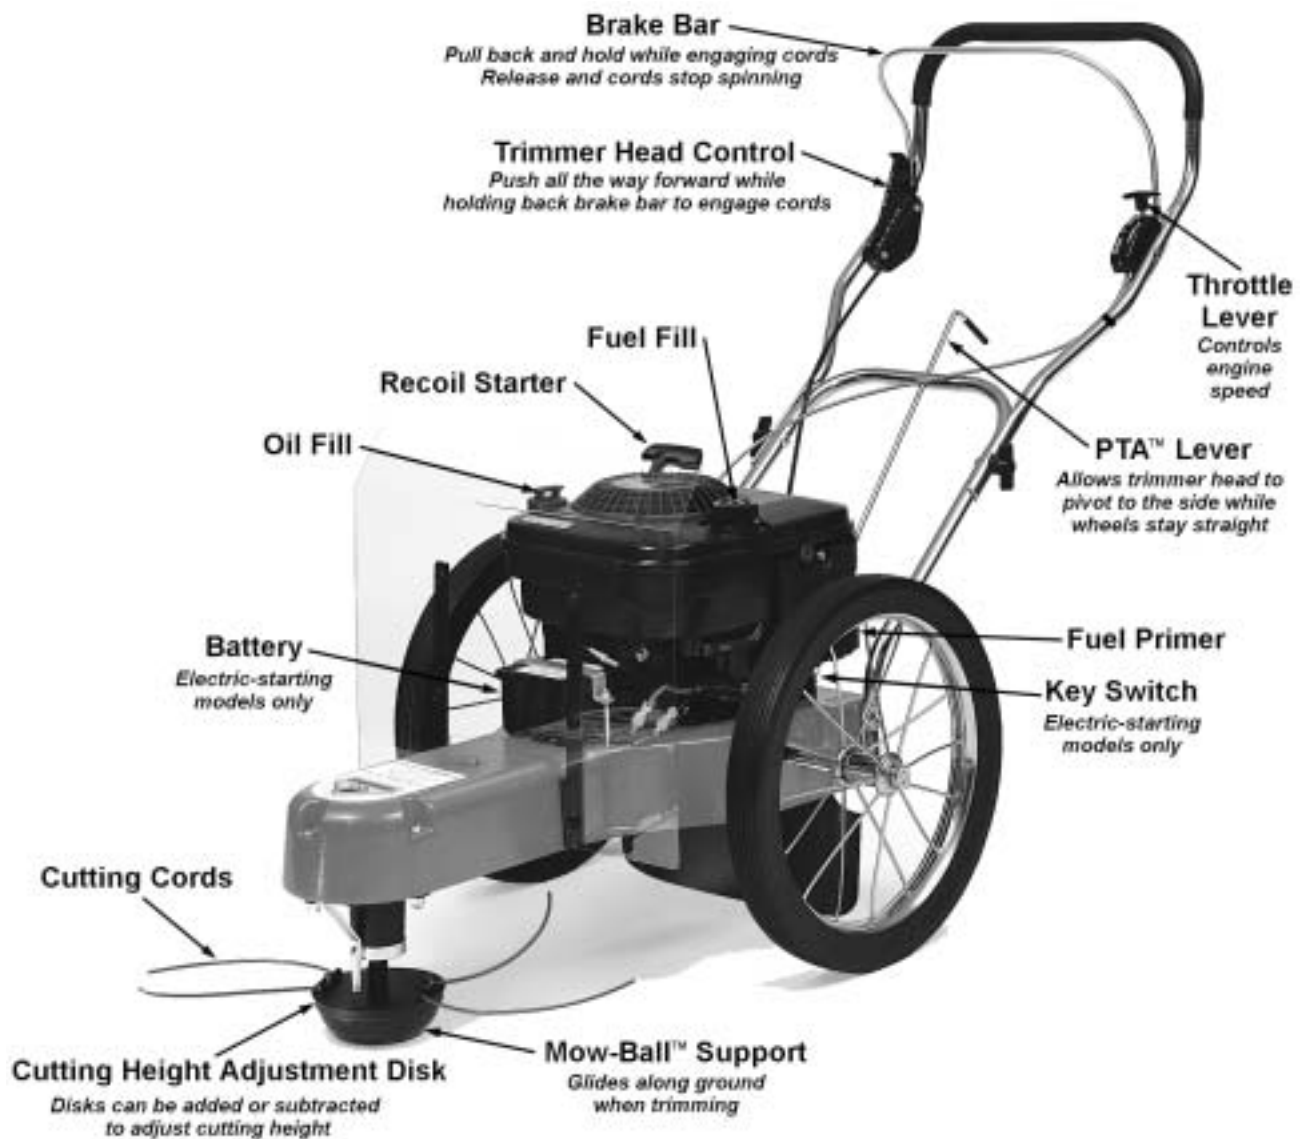
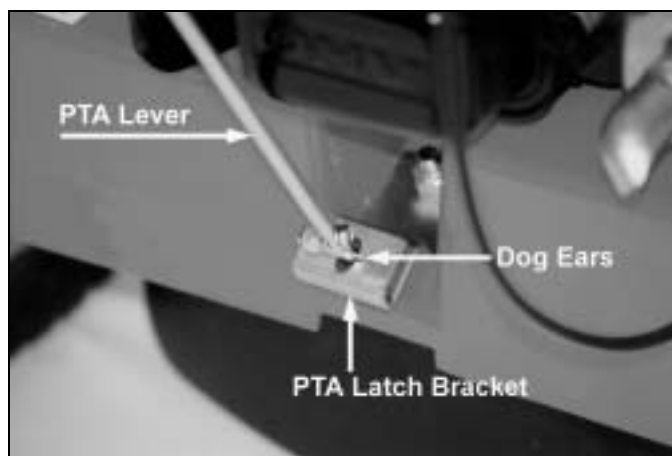

Figure 16
Figure 19
1. Push the throttle lever on the left side of the handlebar (*Figure 16*) all the way forward to the START position.
3. Grasp the recoil starter handle (*Figure 16*), and slowly pull until resistance is felt. Next, pull the cord rapidly to overcome compression, prevent a kickback and start the engine. One or two pulls usually starts the DR[®] TRIMMER/ MOWER[™], but it may be necessary to repeat the priming.
Move the throttle lever back to the STOP position (*Figure 16*). Note that on Electric-Starting Models the key does not stop the engine. The key has a pressure lock that prevents it from vibrating loose during operation. If you wish to remove the key, push it in and then quickly and firmly pull it out. If the key is difficult to remove, spray FLUID FILM[®] or a comparable lubricant into the key hole.
1. Bring the brake bar (*Figure 16*) toward you and grip it together with the handlebar. Keep holding the brake bar to the handlebar.
1. Pull up on the PTA™ lever (*Figure 16*) until you see the two dog ears at the bottom of the lever (*Figure 19*). You may need to turn the lever to see them. This unlocks the axle.
2. Turn the lever one quarter turn so the dog ears rest on the PTA™ latch bracket at the base of the frame after the lever is released (*Figure 19*).